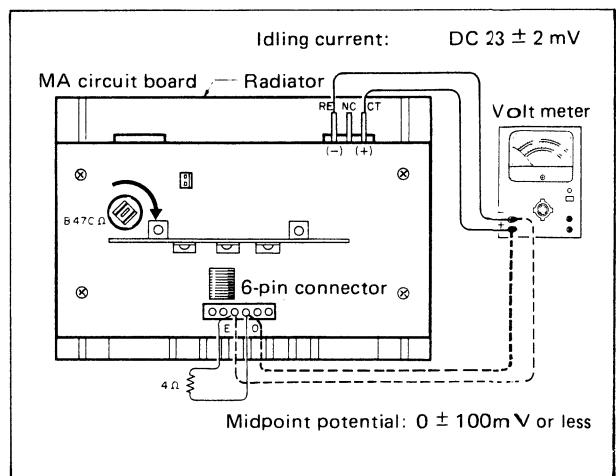

Fig. 5
Adjust the B470 Ω semi-fixed resistor so that the voltage across test points RE (-) and CT (+) is set to DC 23 ± 23 mV under no-signal conditions. (Fig. 5)
Check that the DC voltage across the output terminals (O) and E under no-signal conditions is within 0 ± 100 mV. (Fig. 5)